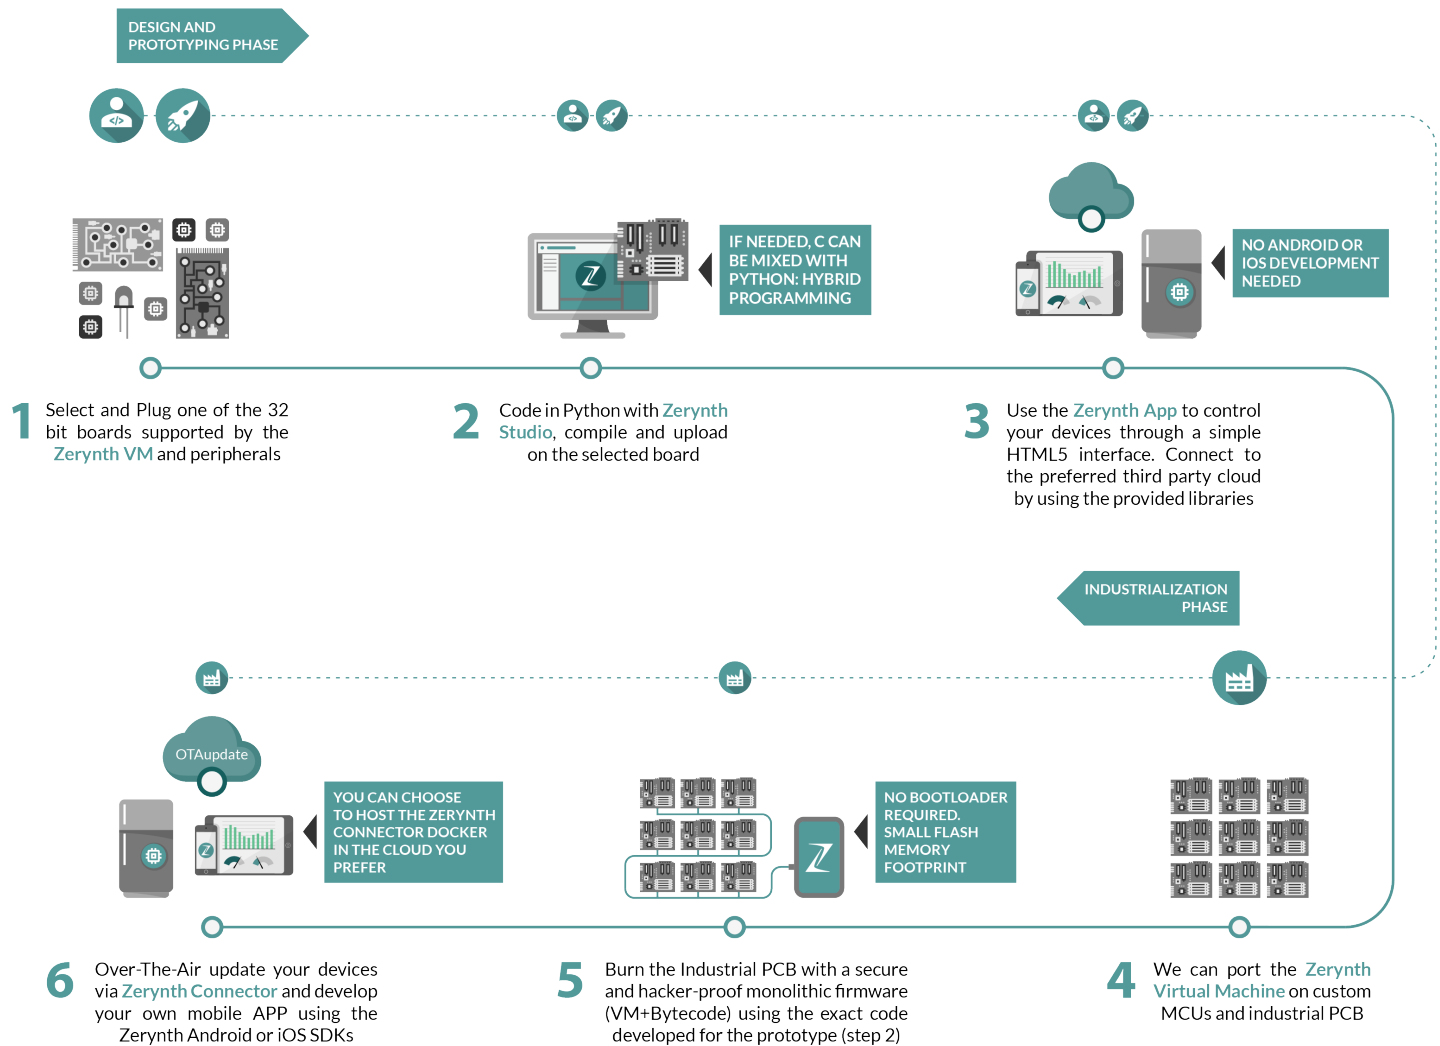

Figure 2: The Zerynth workflow from prototyping to production and update (over-the-air included)
- Code reuse from your prototype, based on a Microchip MCU development board, to your industrial-grade solution, using Zerynth Virtual Machine (see Figure 2)